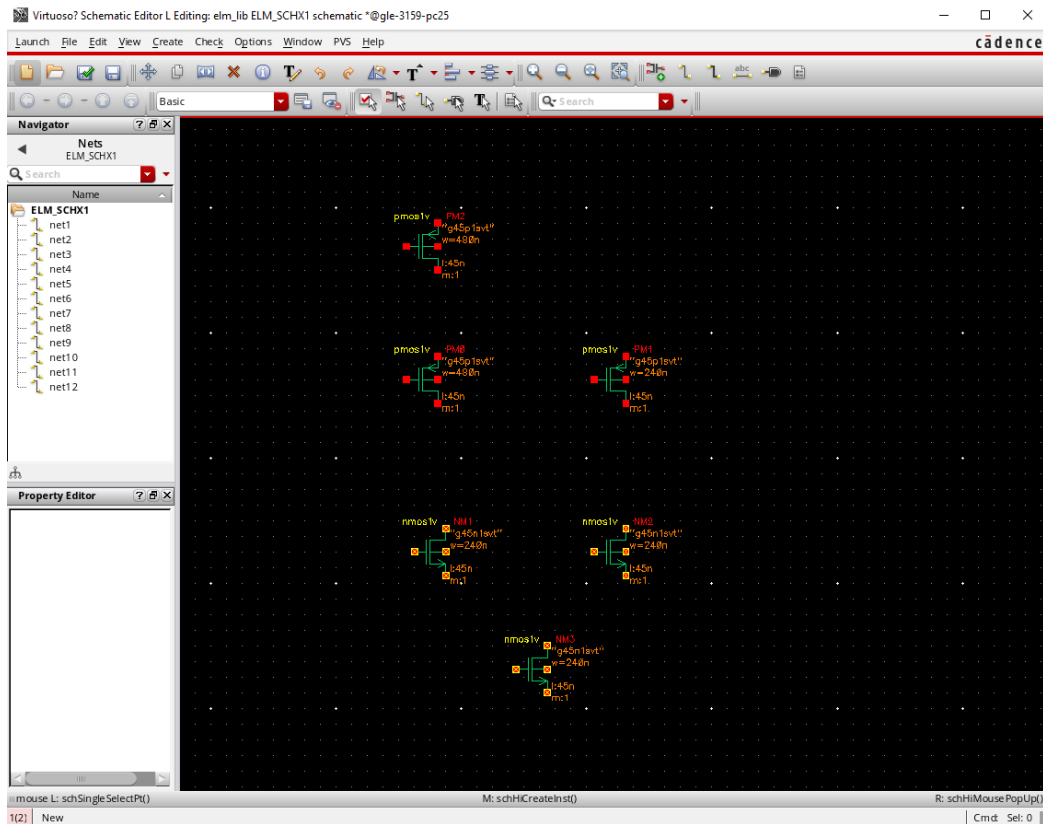

Figure 16: All Transistors in Place
- Do the same for a **pmos1v** transistor with **length (45nm)** and **total width (480nm) for two** and **one with total width of (240nm)**. You should end up with an arrangement like the one below (see Fig. 16). *You will learn about sizing in later lectures but for now we are giving you the correct sizing.*